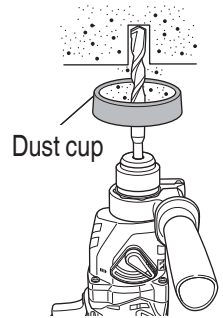
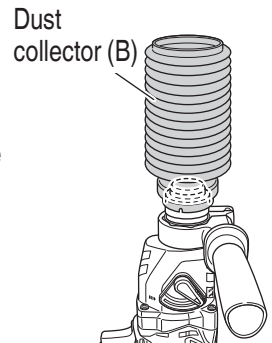

Fig. 9
Fig. 10
## 4. Installation of dust cup or dust collector (B) (Optional accessories) (Fig. 9, Fig. 10)
Use the dust cup by attaching to the drill bit as shown in Fig. 9. When using a bit which has big diameter, enlarge the center hole of the dust cup with this rotary hammer.
- Installing dust collector (B)
When using dust collector (B), insert dust collector (B) from the tip of the bit by aligning it to the groove on the grip. (Fig. 10).